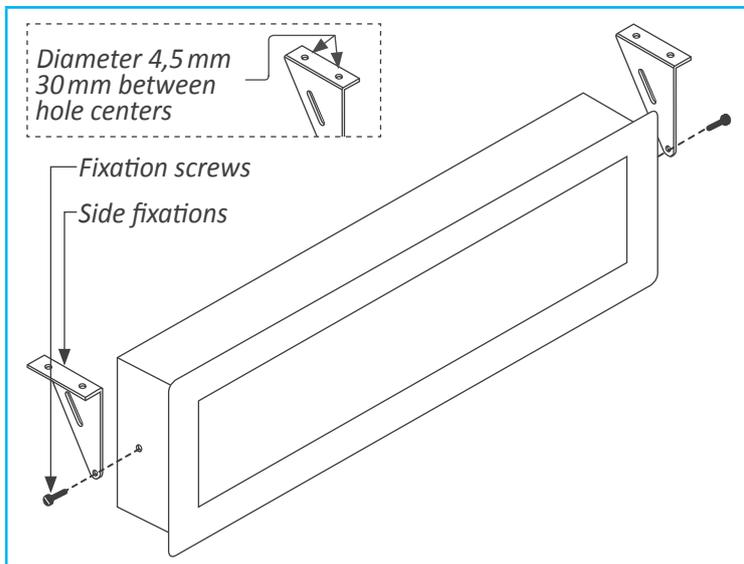

Figure 9 - Hanging mount
- Hanging mount. Mount the side fixations as shown (see Figure 9). Each fixation has 2 holes with 4,5 mm diameter and a separation between hole centers of 30 mm. Instrument can be hung using cable, threaded rod,